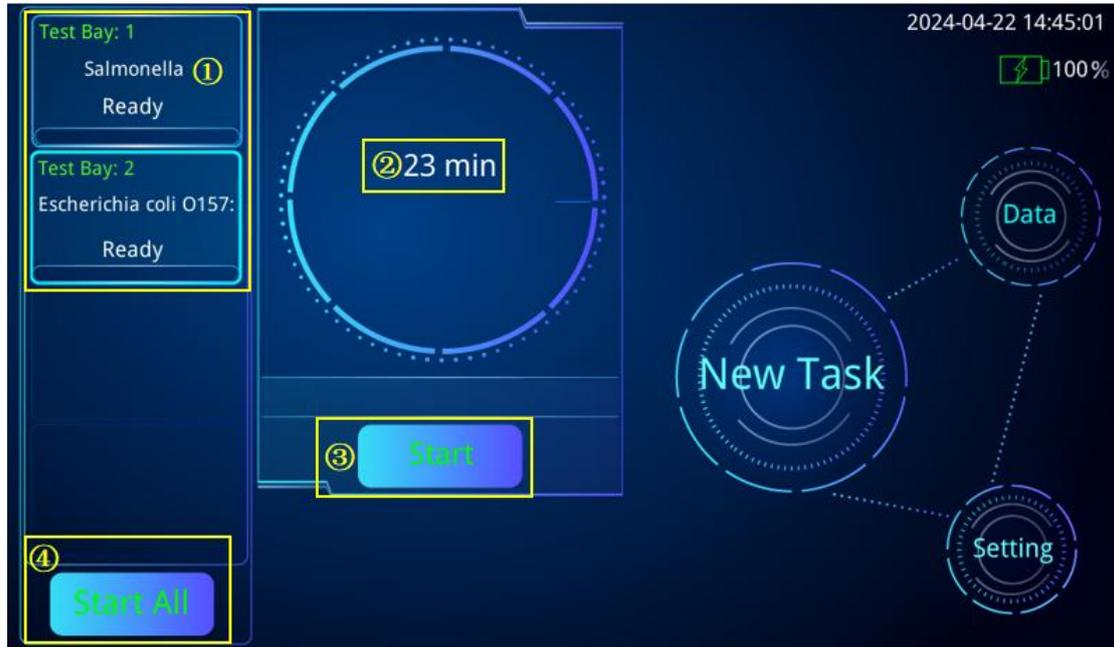

Figure 13 Main Page (Ready to start multiple tests)
The created tasks are shown in the Taskbar on the left side of the Main Page, ready to start (Figure 13 ①). Click on a task to select it (Figure 13 ①). The outline of the selected task will be highlighted in light blue (Figure 13 ①), and the testing time for this task will be shown in the middle Time Circle (Figure 13 ②). Click "Start" under the Time Circle to start the selected task (Figure 13 ③).
Each task can be started individually by following these steps. Alternatively, click "Start All" at the bottom left (Figure 13 ④) to start all tasks in the Taskbar simultaneously.